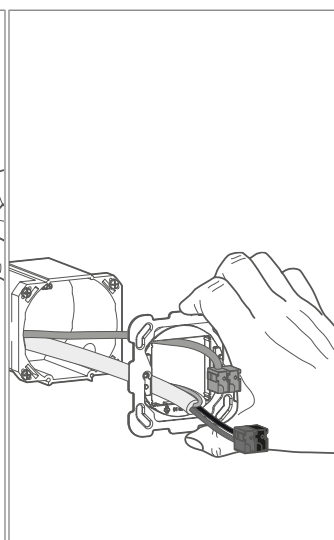

Fig. 9: Optional: Run through cable for ext. temperature sensor
- Also run the connection cable for the external temperature sensor with the connecting terminal through the frame and connect it to the back of the device. (Fig. 9).